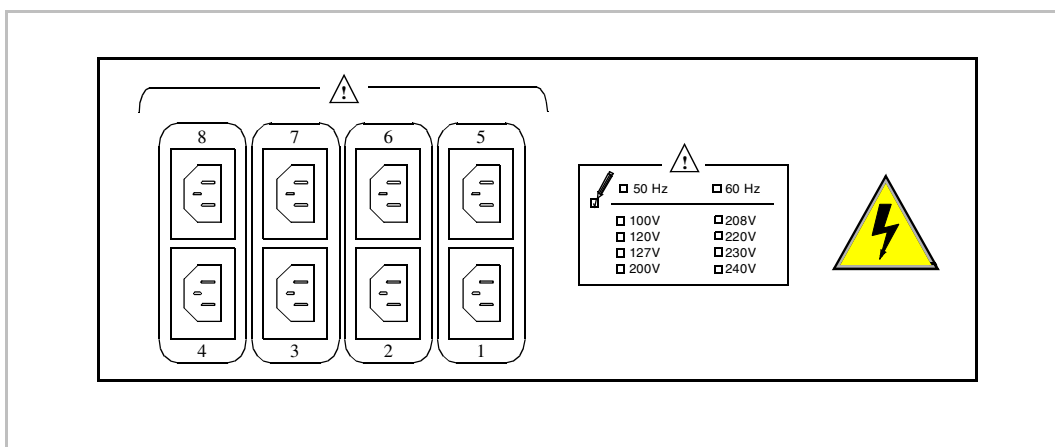

Figure 12 PDU Rear Panel
- ☐ 19. **Connect Power from PDU** —Connect the power cords to the PDU as described by the information in Figure 12 below.